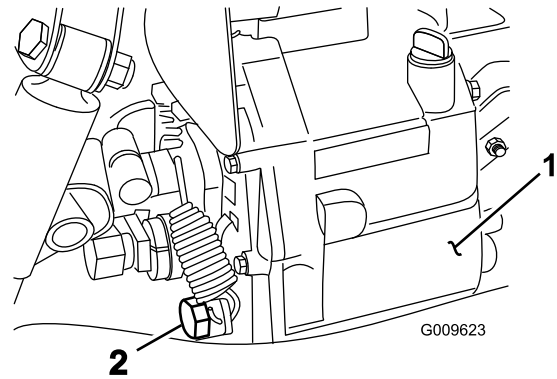

Figure 64
- Remove the drain plug from the side of the reservoir and let the hydraulic fluid flow into a drain pan (Figure 64).